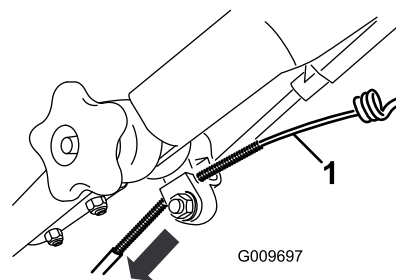

Figure 43
- Pull the cable jacket downward until you remove the slack in the exposed cable (Figure 43).